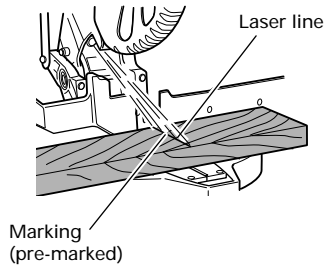

Fig. 14
- Check and make sure on a periodic basis if the position of the laser line is in order. As regards the checking method, draw a right-angle ink line on the workpiece with the height of about 38 mm and the width of 89 mm, and check that the laser line is in line with the ink line [The deviation between the ink line and the laser line should be less than the ink line width (0.5 mm)] (Fig. 14).